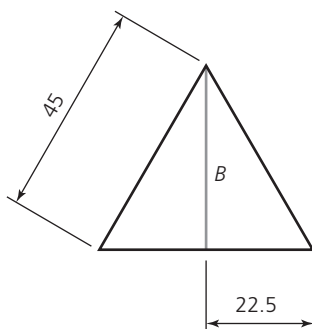

Figure A.9
Step 2: In order to calculate the area of a triangle, the height, B , of the triangle is needed (see Figure A.9).